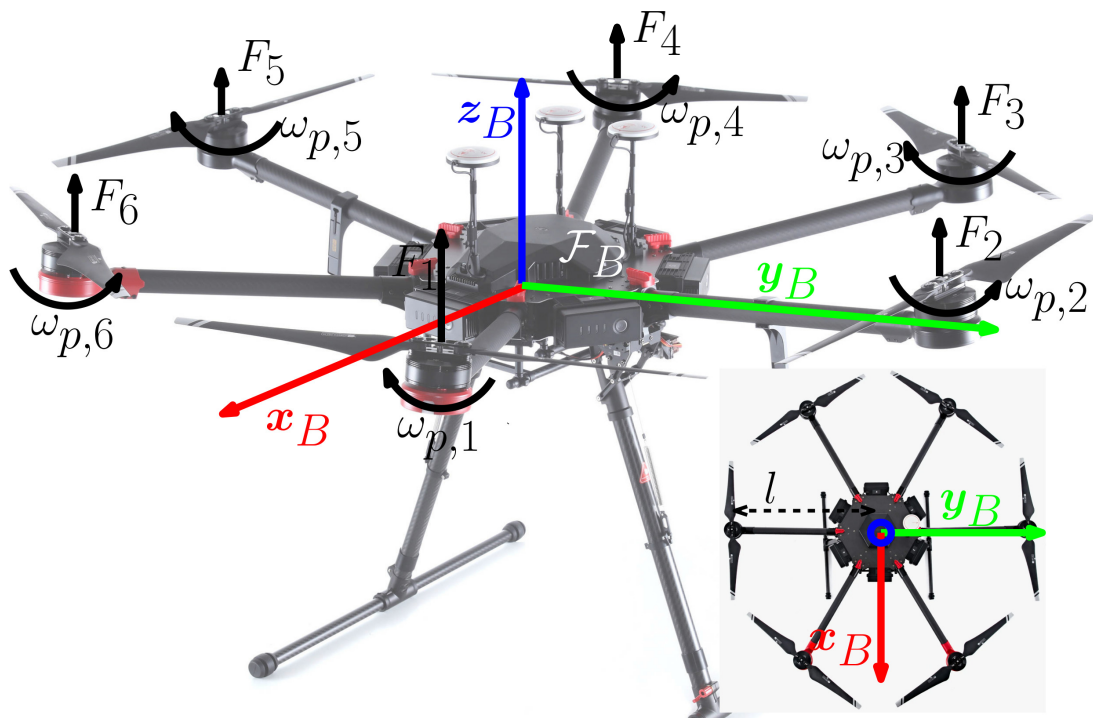

Figure 1: Hexacopter model. Note that the rotation arrows on the propellers represent the spinning direction of the propeller.
In this exercise, the linearized equations of motion of a hexacopter have to be derived assuming that the vehicle is a rigid body. The dynamic model has to be represented as a set of ordinary differential equations. The hexacopter structure is shown in Figure 1, including propeller forces acting on the vehicle and the body frame.
2. From Figure 1 derive the *allocation matrix*  $\mathbf{A}$  that maps between the square of rotor angular velocities  $\omega_{p,i}^2$  and the total forces and torques acting on the platform: